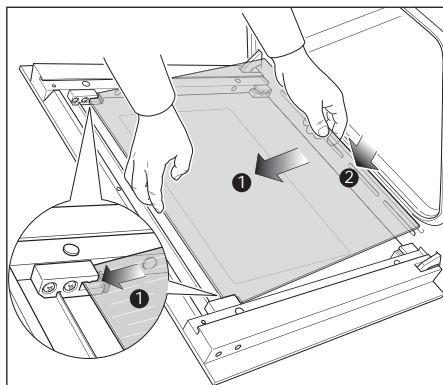

Fig. 6.23
- Gently insert the top edge of the pane into the top clamps (arrow 1 in fig. 6.23), then lower the pane and insert the bottom edge into the bottom clamps (arrow 2 in fig. 6.23); and then slide the pane into position (fig. 6.24).